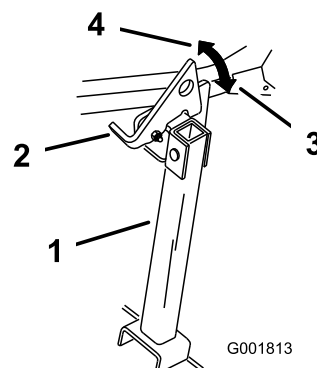

Figure 42
2. Raise the latch to the unlocked position (Figure 42).